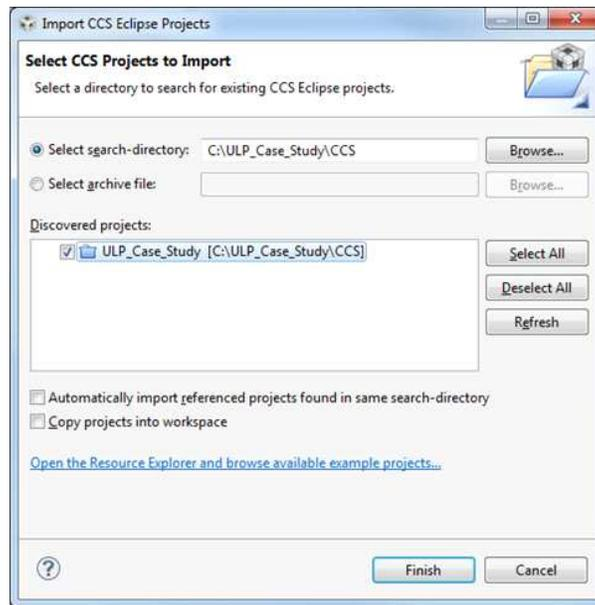

Figure 3. Import the Case Study Project
- (e) Click *Finish* (see Figure 3). The project appears in your *Project Explorer* window.